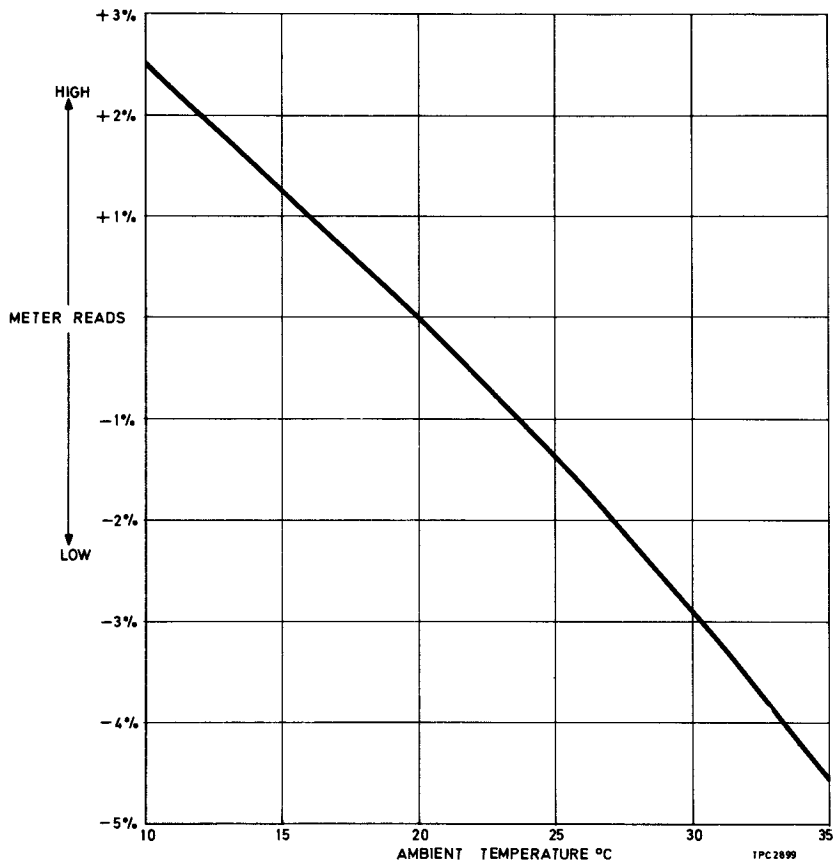

Fig. 3 Temperature correction chart
Temperature correction (Fig. 3)
10. Wattmeters of this type are calibrated in such a manner that optimum accuracy is obtained when the ambient temperature is 20°C (68°F). A typical temperature/accuracy chart, Fig. 3, may be used to obtain greater accuracy at other ambient temperatures. Protected power measurement will cause an air-temperature increase within the instrument, leading to long-term drift. All measurements should, therefore, be made as rapidly as possible. For greater accuracy time should be allowed between measurements for the meter to revert to ambient temperature, as described in para. 9.